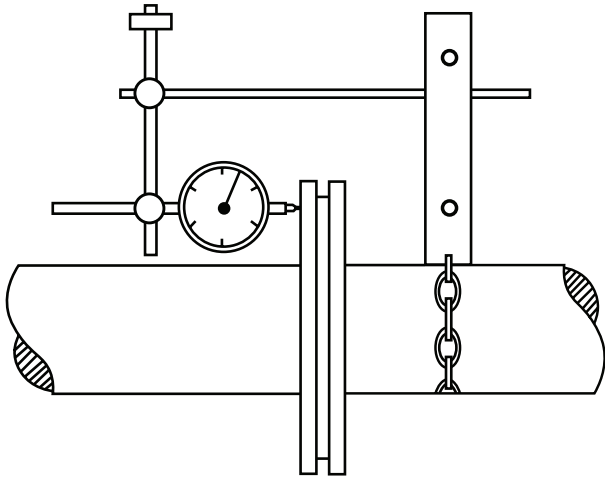

Figure 46 – Angular Misalignment Check with Dial Indicator
6. Check angular misalignment with a dial indicator on **gear drive side**, as shown in **Figure 46**.